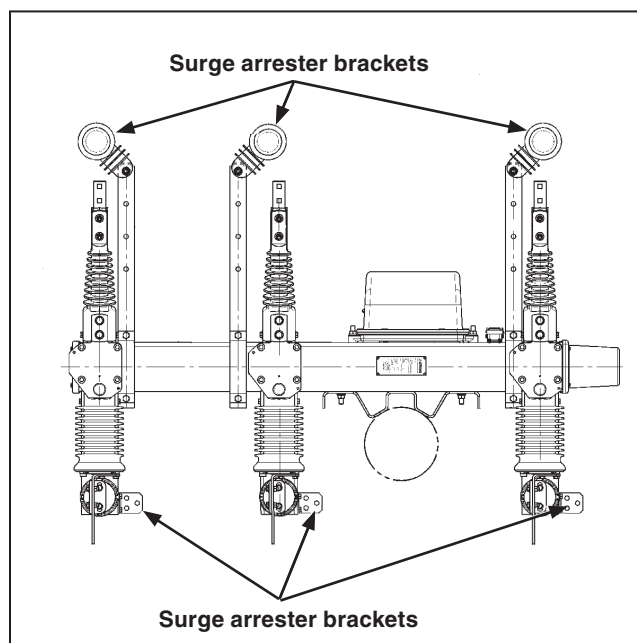

Figure 7. A typical surge arrester mounting arrangement. (Optional disconnect and front brackets shown.)
STEP 9. Install surge arresters (customer furnished), if applicable, using the mounting provisions provided. Surge arrester brackets are provided on the pole-saddle side of the switch and are optionally available on the front side of the switch. Each surge arrester bracket has three $\frac{1}{16}$ -inch (14-mm) diameter holes. Mount the surge arrester using one of the holes and connect the surge arrester ground to one of the other holes. When properly installed and connected, the surge arresters are grounded through the switch base. A separate ground wire can be run for the arresters at user discretion. See Figure 7.